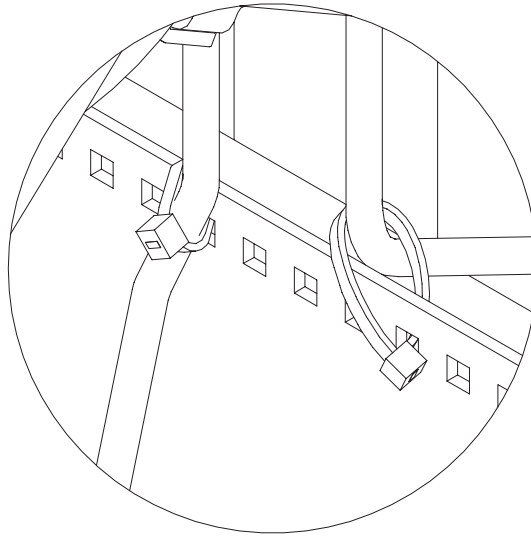

Figure 22. Exploded view of tie-wraps with ends cut flush.
5. Secure the cables, especially the USB cables to the mounting plate with tie-warps, see Figure 22 on page 39 for an example. Cut the end of the tie-wraps flush so there are no jagged edges sticking out.